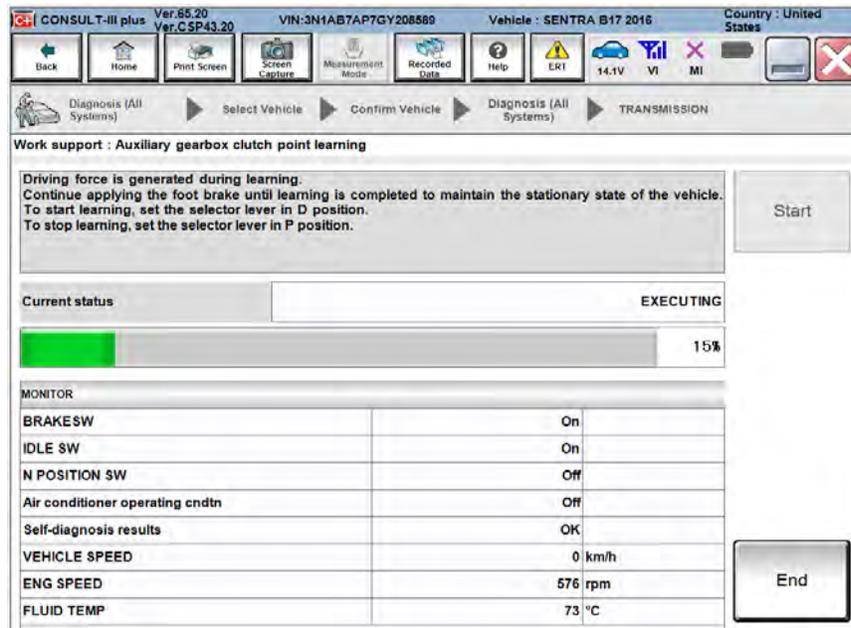

Figure 45
- Figure 45 on the next page will be displayed after shifting into D position.